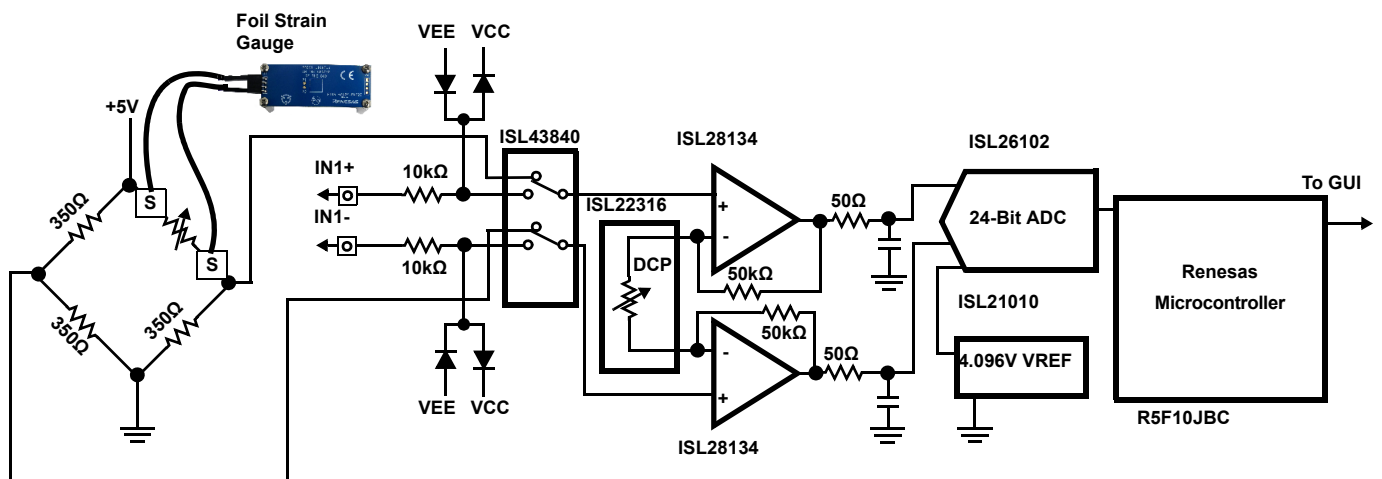
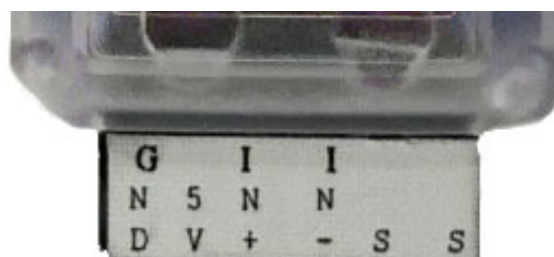

Figure 2. Simplified Strain Gauge Schematic
Figure 4. Sensor Connector
Figure 2 shows a simplified schematic of the Strain Gauge design. The design uses the Renesas ISL28134 chopper amplifier, ISL22316 Digitally Controlled Potentiometer (DCP), ISL43840 dual 4-channel Mux configured as a Differential Mux, ISL21010 3.3V and 4.096V precision voltage references, ISL26102 24-bit delta sigma converter, and the R5F10JBC microcontroller.
Figure 4 shows the external connector inputs that connect the sensor to the circuit shown in Figure 2.
1. Plug the wires into the IN+ and IN- ports shown in Figure 4.